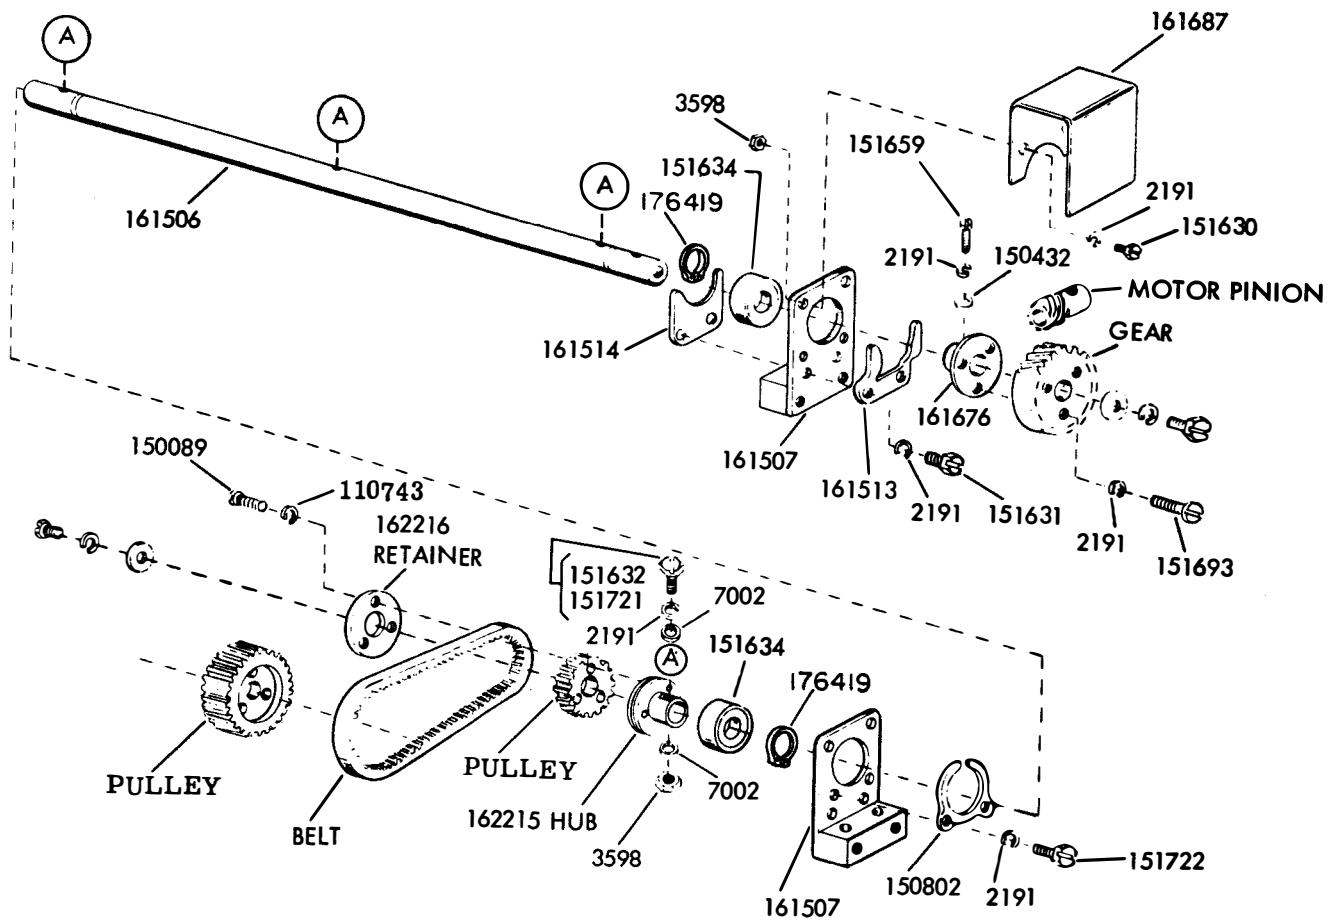

FIGURE 1
2. INSTALLATION (See Figure 1)
The next paragraph must be followed exactly or damage may result to the equipment. Make certain the 176419 Retaining Ring is properly seated in its groove on the shaft. See Figure 1.